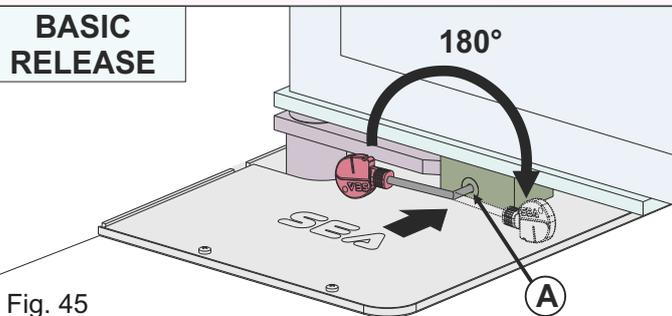

Fig. 45
- insert the supplied Allen key in the slot «A» and turn 180° toward the center of the gate (Fig. 45)